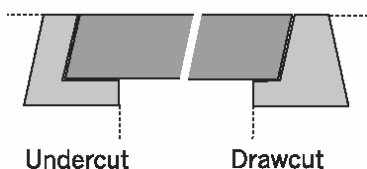

Figure 11 – Undercut & Drawcut Edge
3. Set the end frames so that the beam locating boxes are positioned with the corresponding beam pocket/s in the slab. Ensure all the undercut frames are installed at one end and the drawcut frames are installed at the opposite end, see Figure 11. Pack under the corner of the frame joints to raise the level of the frame to the finished floor level. Leave a clearance of 50mm between the concrete beam pocket/s and the beam locating boxes.
The lifting end/drawcut edge of the cover, see Figure 11, should face the orientation of traffic flow to prevent the cover lifting, see Figure 12.